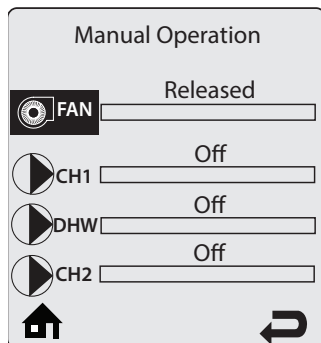

Fig. 6: CTRLMax Manual Operation
4. Press the CENTER button while the FAN icon is highlighted to manually fire the burner and power the CH circulator. See Fig. 6.